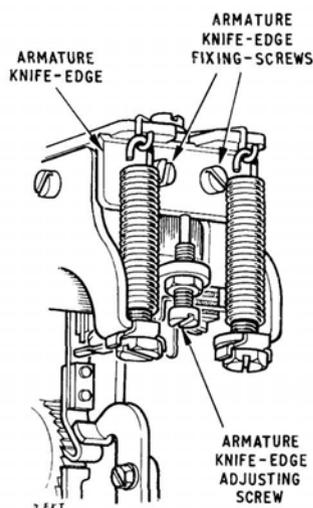

FIG. 11
**8. Armature knife-edge.**—This should be positioned by means of its adjusting screw (see Fig. 11) so that when the armature is manually operated the following conditions obtain:—